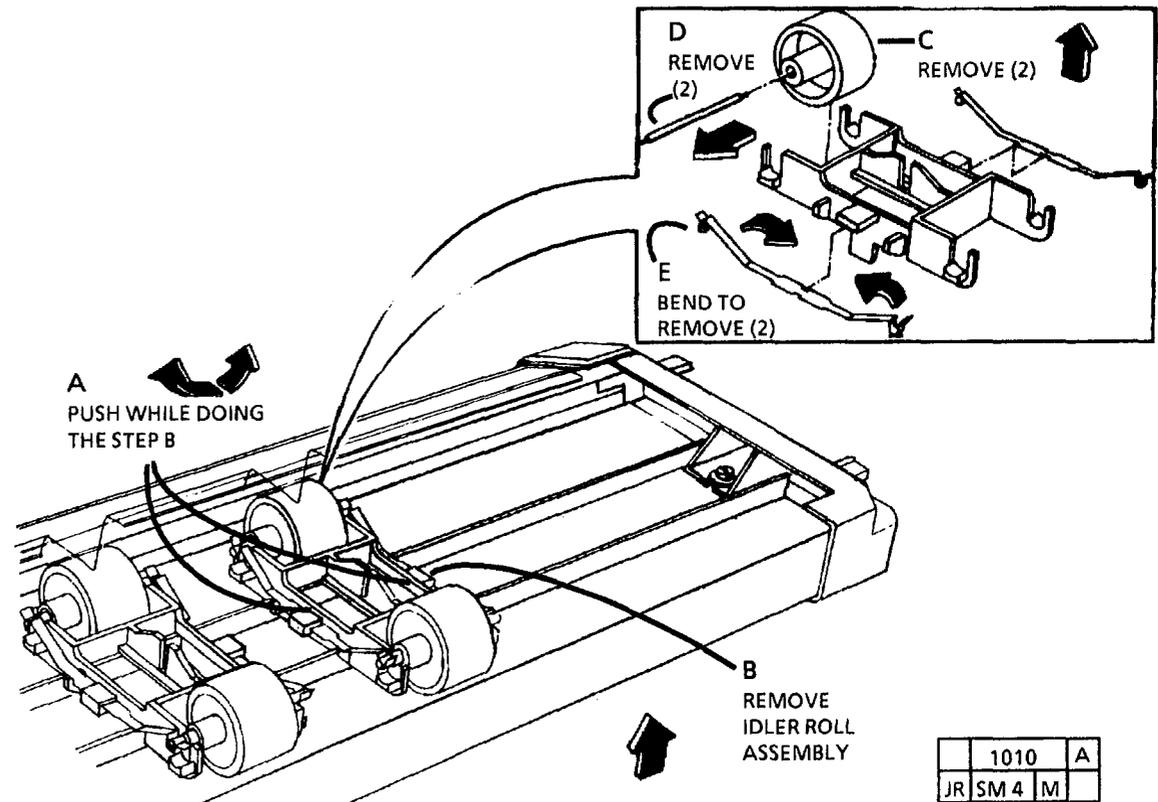

Figure 2. Remove the Idler Rollers
4. (FIGURE 2): REMOVE THE IDLER ROLLERS.